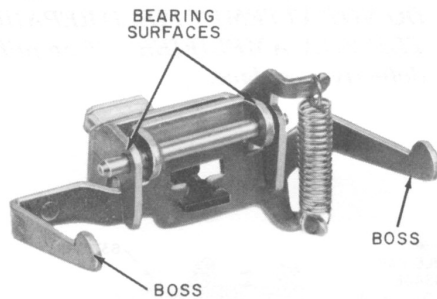

Fig. 13—Operating Bracket Switch Assembly, 500- and 501-Type Telephone Sets
- Clean bosses on operating bracket arms, spring anchor points, operating bracket, and shaft bearing points with KS-2423 cloth moistened in KS-7860 petroleum spirits and lubricate bearing surfaces with a No. 2 or softer graphite pencil (Fig. 13).